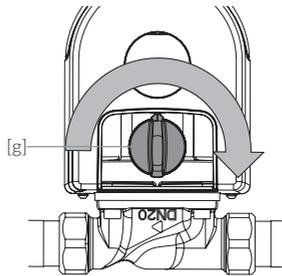

Fig. 9.2
- / Fig. 9.2: Turn the handle [g] 90° in the direction of the arrow until it stops.